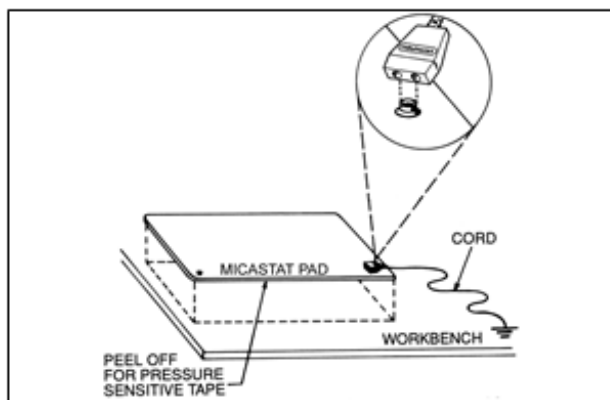

Figure 9. Proper installation of Micastat® Pad
4. Place the electrodes in position A as shown in Rtt test diagram (Fig. 9). Set the meter selector switch to 100V.